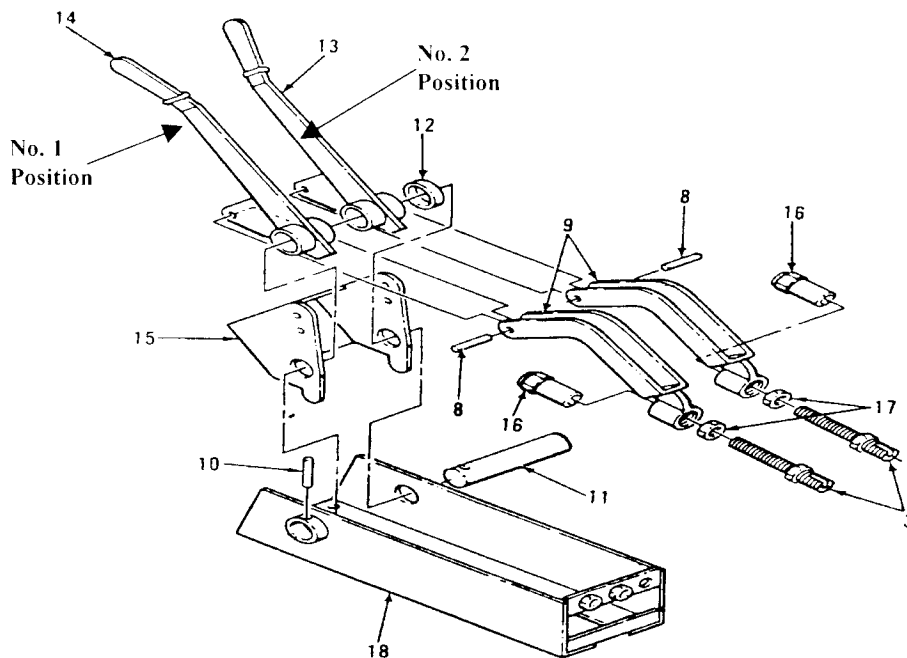

Figure 4-15 Control Levers Assembly.
(2) Disassembly.
- (a) Remove spring pin (10) and shaft (11, Figure 4-15).
- (b) Remove roll pins (8) and yokes (9).
- (c) Remove spacer (12), control levers (13 and 14) and trip lever (15) from container (18).
- (d) Remove fuse nuts (16), adjusting bolt (3) and nuts (17) from yokes (9).